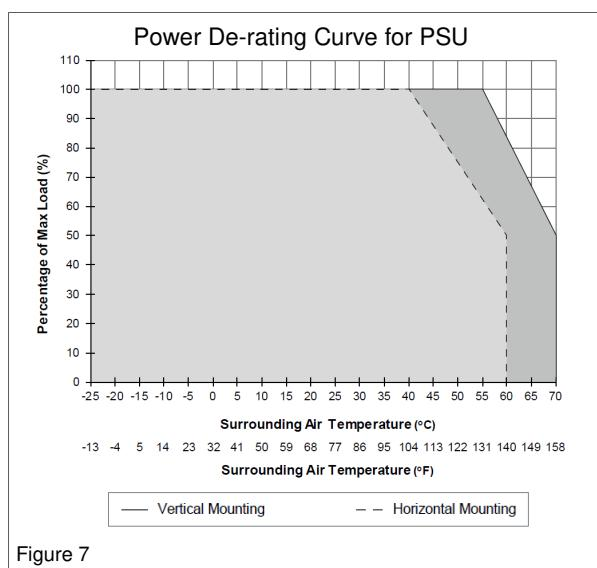

Figure 7
4.5. Thermal behavior (Fig. 7)
If the output capacity is beyond what is recommended in Fig. 7, the device will run into thermal protection by switching off i.e. device will go in bouncing mode and will recover when ambient temperature is lowered or load is reduced as far as necessary to keep device in working condition.
Wire size / torque / stripping length	See Table 1 Refer to Fig. 7